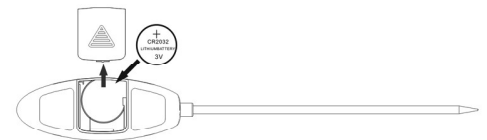

Figure 3
1. Open the battery cover and install CR2032 button battery (As Shown in Figure 3).